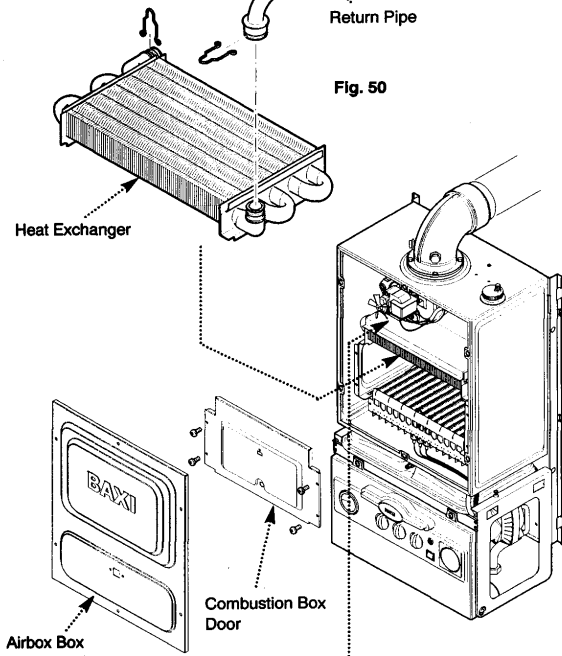

Fig. 49
1. Remove the airbox door panel by releasing the six ¼ turn screws (Fig. 49).
2. Undo the four screws securing the combustion box door and remove the door (Fig. 49).